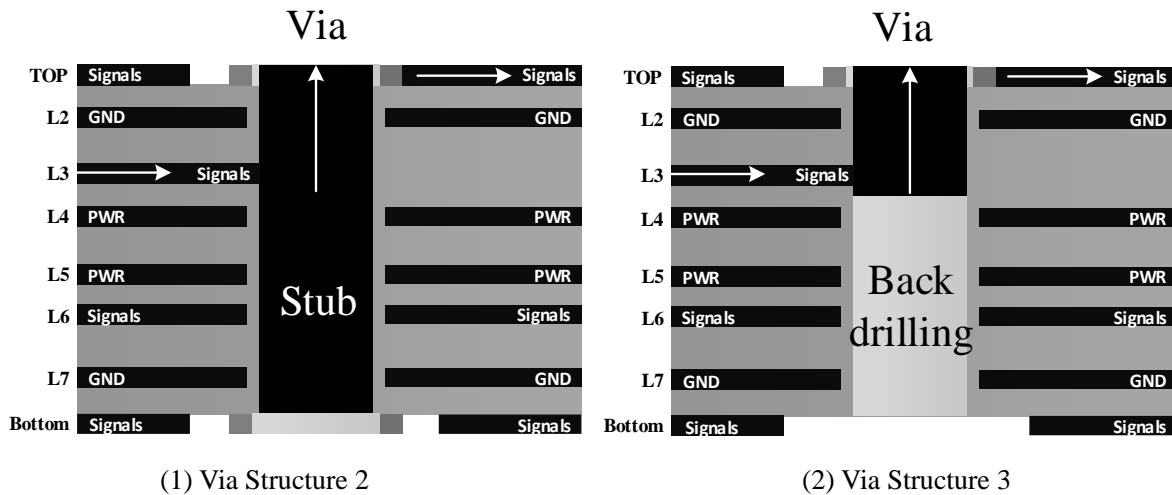

Figure 7-5 Via Structure Design Examples
- Figure 7-5 illustrates three types of via structures; structure (1) is the most common form and is the default structure in general PCB design software, structure (2) removes the non-functional pads on the inner layers that are not connected, which is beneficial for reducing via parasitic parameters, and structure (3) uses back-drilling technology to remove the via stubs on the basis of structure (2), resulting in excellent performance when routing close to the TOP layer.